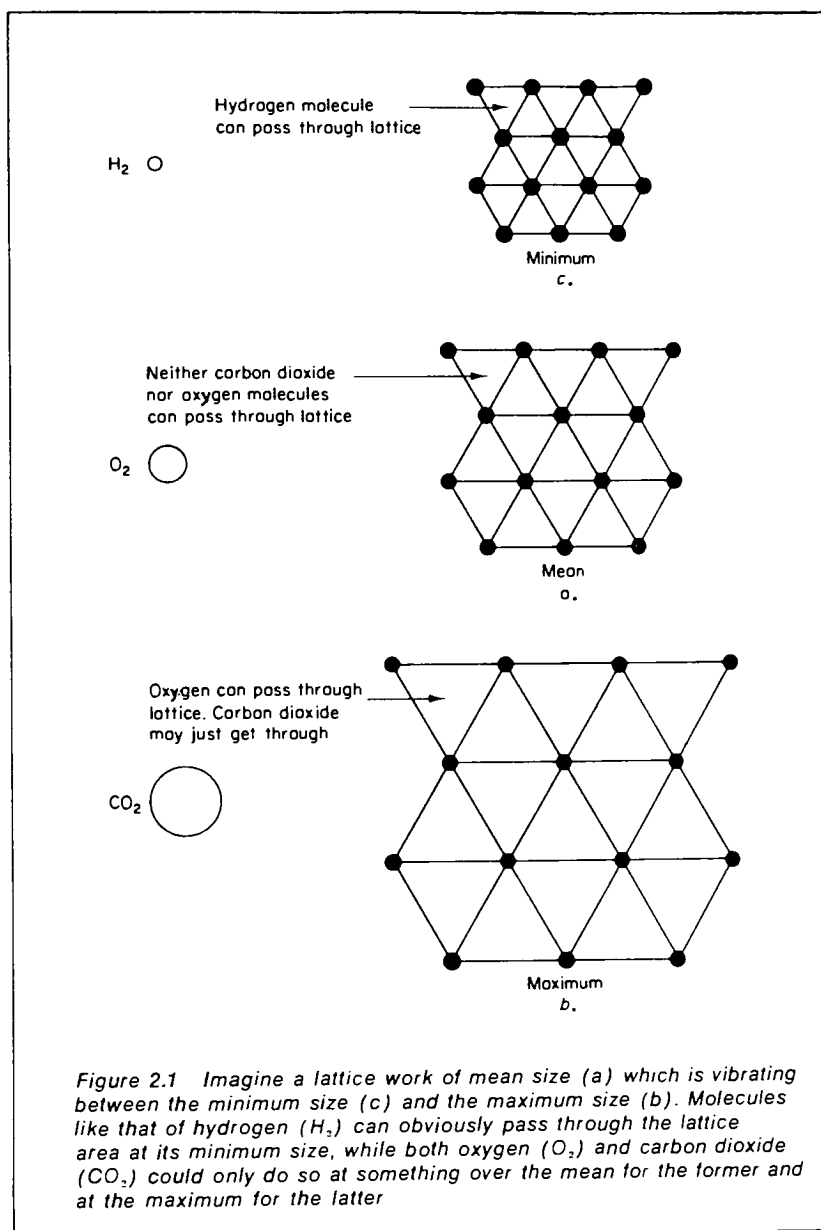

Figure II.15. SELECTIVE PERMEATION
"All matter consists of discrete molecules packed together in various ways. If these molecules are arranged in an ordered fashion, the resultant solid is crystalline in nature, but if they are arranged at random, then the solid is said to be amorphous or to exist in a disordered state. Whether the material exists in a crystalline or in an amorphous, form it is obvious that, with this original premise, no solid can form a completely continuous arrangement of matter but will consist of a network containing 'pores', the size of which will depend on the nature of the molecules forming the material itself. Such a network of pores will be more or less rigid, depending upon the rigidity of the molecules which form it. This, in its turn, will depend on the degree of vibration of the atoms contained within the molecules. Hence, the number of pores of any given size will obviously also be dependent on the degree of vibration. Thus, the more rigid networks can give rise to selective permeation, allowing only small molecules to pass, See Figure II.15., while more elastic networks will permit larger molecules to diffuse, since at the maximum vibration there will be a greater displacement of the atoms surrounding a hole from their mean position" (4).